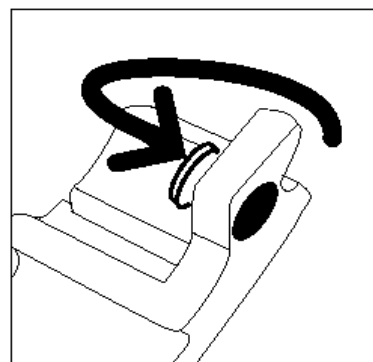

Figure 23: Placing the cap on the waste container
- 6** Securely push the gold cap over the opening on the back of the waste container, as illustrated in Figure 23, to prevent developer beads from spilling out.